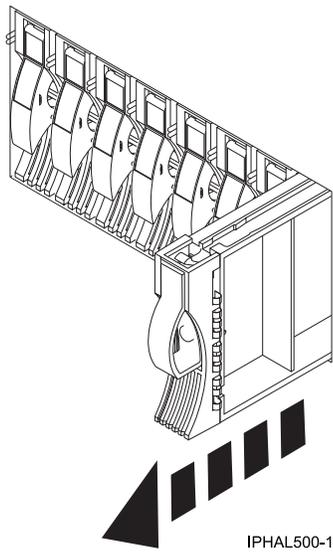

Figure 54. Removing a disk drive filler from a model or 7311-D20
4. Pull the disk drive filler from the slot. Pull the disk drive filler from the slot that you want to use, as shown in Figure 54 on page 88.